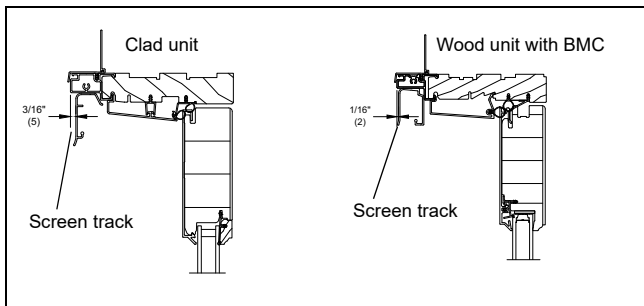

Figure 1
1. Center the screen track at the unit head jamb. Align the front of the screen track with the front edge of the cladding or BMC. Pre-drill pilot holes through the screw holes in the screen track with the 3/32"(2) drill bit. Secure the screen track to the head jamb with the supplied screw. See figure 1.